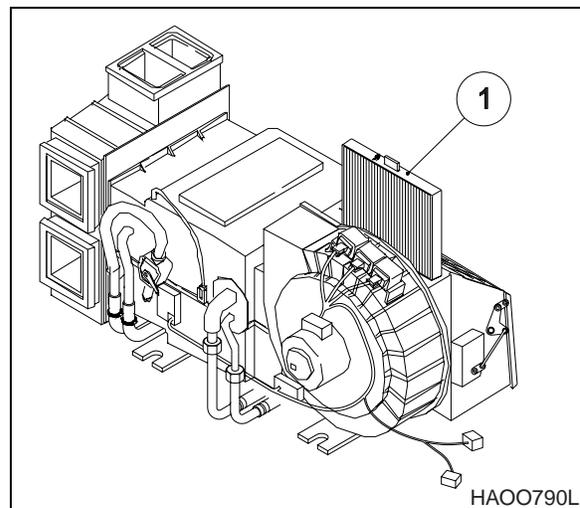

Figure 57
5. Remove filter element (1, Figure 57) and inspect for any damage.